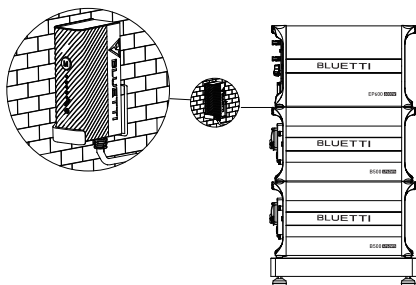
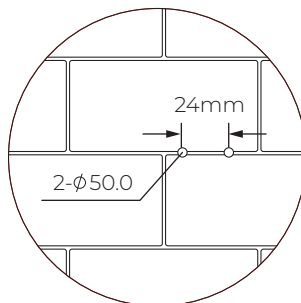

Fig. 3-14-1
Fig. 3-14-2
- Drill 2 pilot holes in the wall. Please refer to the drill position and hole size shown in fig. 3-14-1 and fig. 3-14-2. The depth of hole is 26mm.